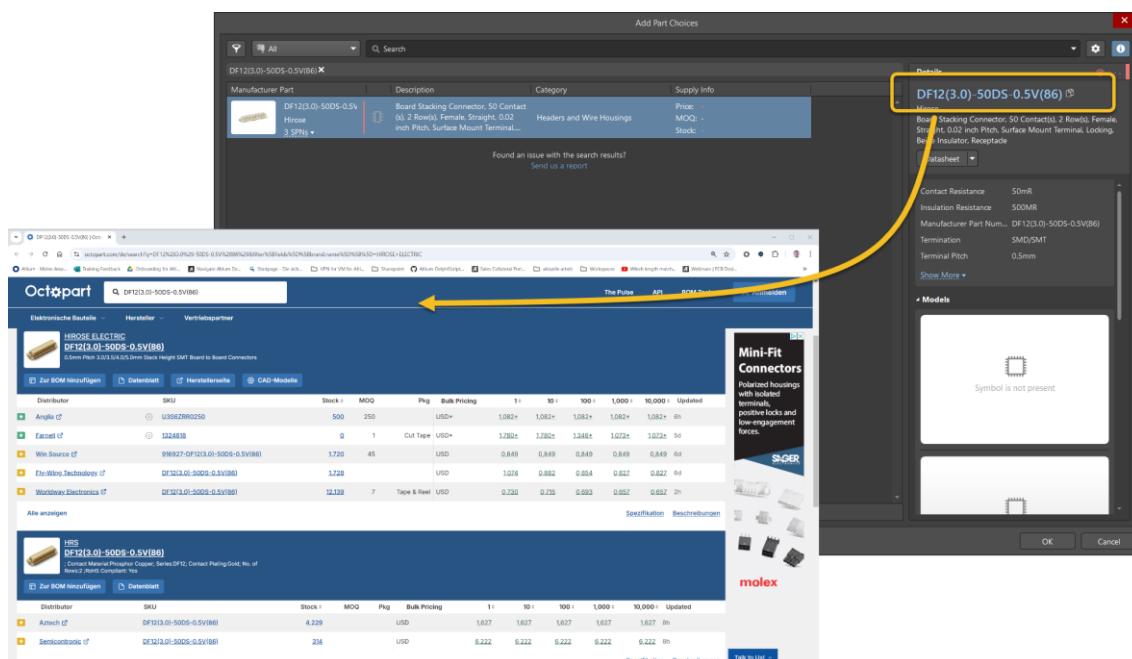

Figure 17. New Solution for CN1 / CN2
- iii) To check availability, feel free to click the Component Name within the details to open Octoparts, Figure 17.